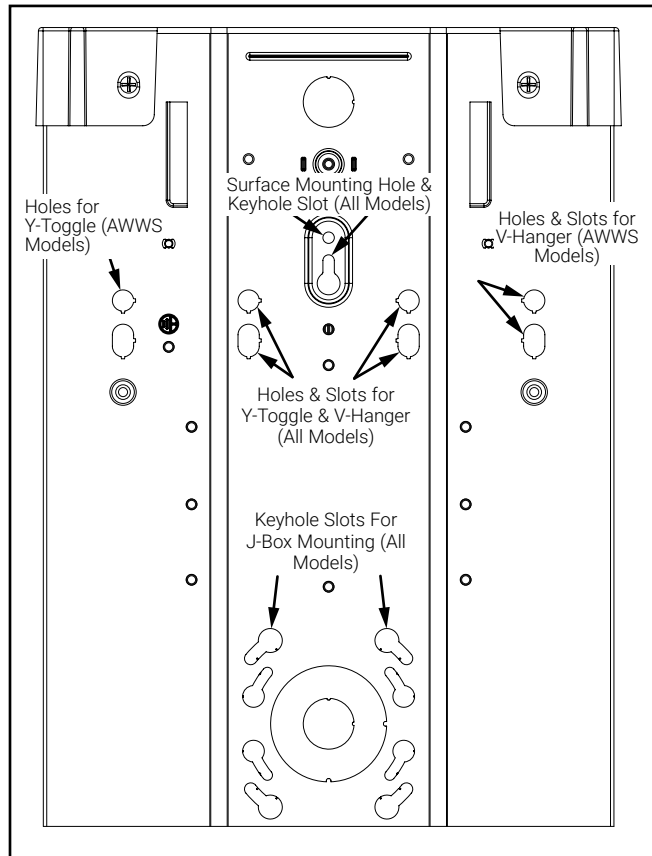

Figure 7.
- For mounting luminarie, use the provided mounting holes found on each end of the channel (Figure 7). Appropriate hardware should be used (sold separately).